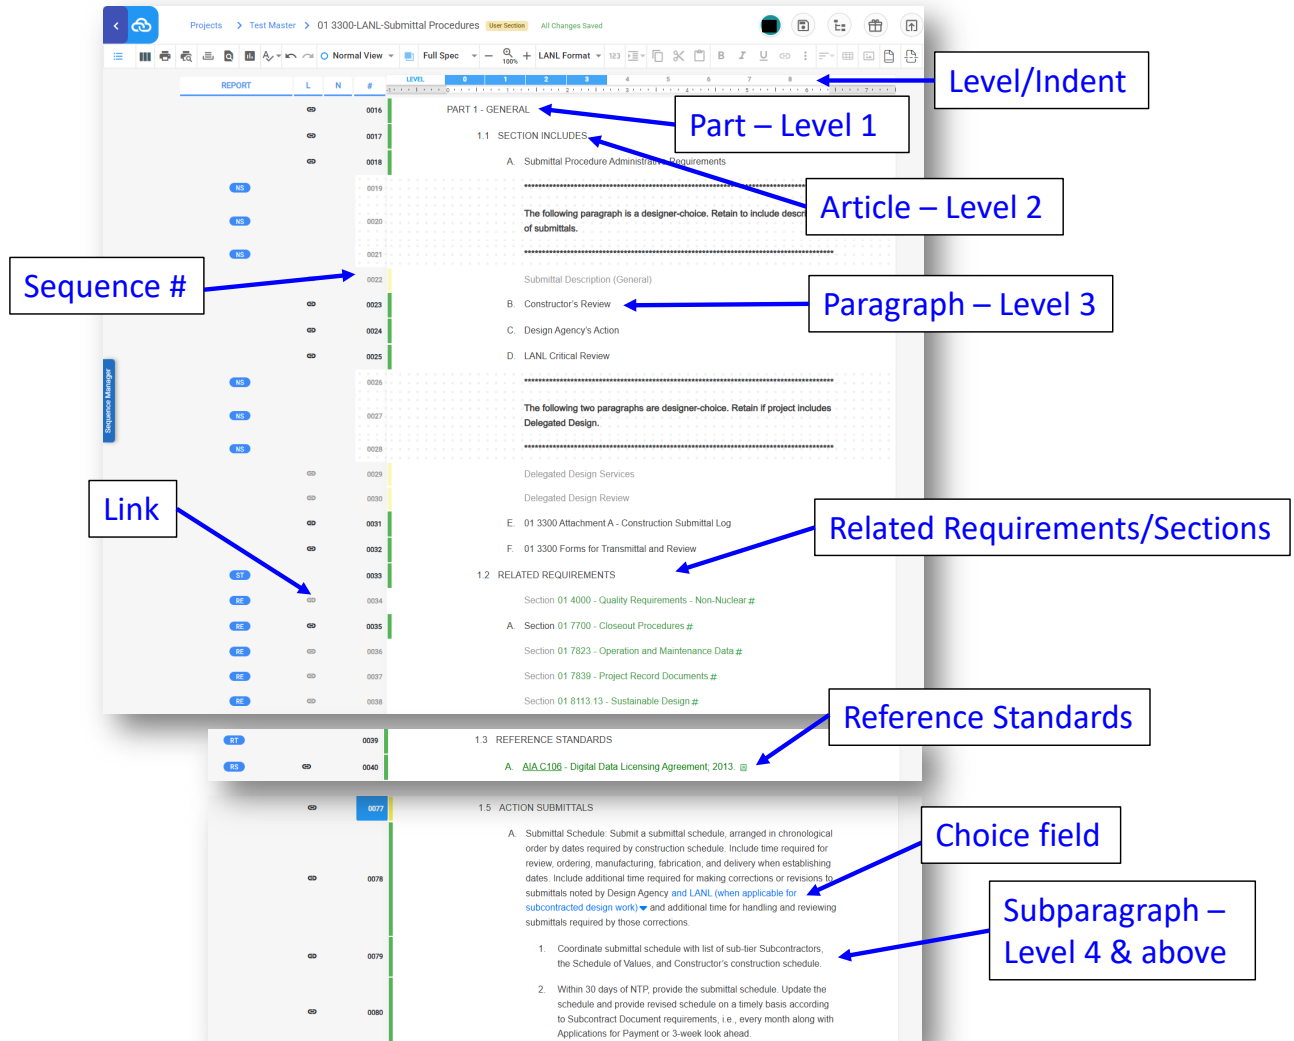

Figure 3: Basic Terminology in SpecLink Cloud
- 7.2 Figure 3 graphically shows the basic terminology used in SpecLink Cloud, which is essential to understand, to effectively use the software. A Section includes Parts; Parts include Articles; Articles are made up of paragraphs and subparagraphs.